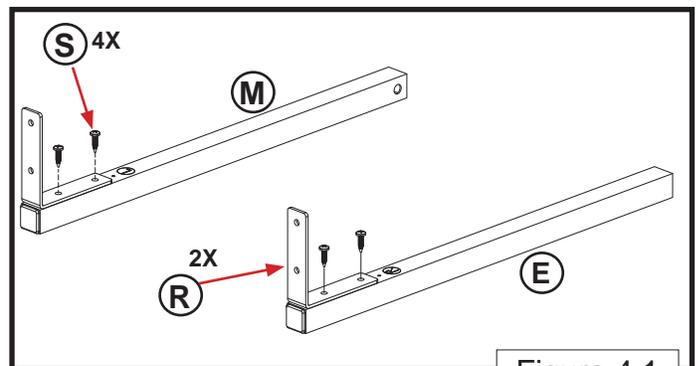

Figure 4.1
1. Locate both Right Extension Tube (E) and Left Extension Tube (M). Assemble Extension Tubes and Angle Brackets as shown in (Figure 4.1).
3. Slide the (Left) Extension Tube Assembly into the Side Assembly Channel (C) (Figure 4.1).